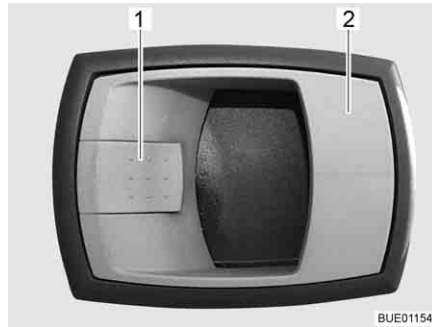

Fig. 42 Door lock of conversion door, inside
- Opening:* ■ Pull on the handle (Fig. 42,2). The door lock is unlatched.
- Locking:* ■ Press the locking lever (Fig. 42,1).